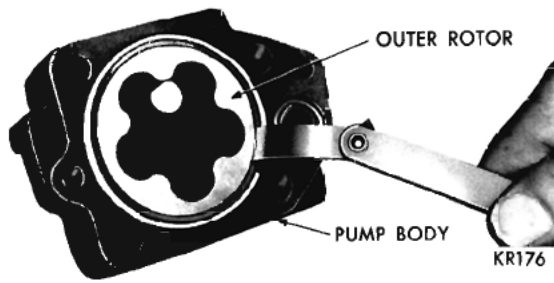

Fig. 126—Measuring Outer Rotor Clearance
(4) Place the outer rotor in pump body. Press the rotor to one side with the fingers and measure the clearance between the rotor and pump body. If the measurement is more than .012 inch, install a new oil pump body (Fig. 126). (This test is not necessary if a new pump body is being used.)